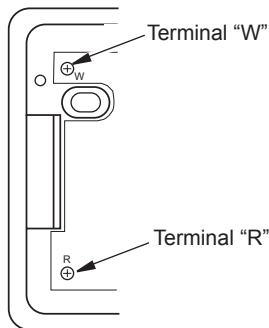

Figure 22 - Thermostat Base Terminal "W" and "R"
7. Connect one bare wire end to each terminal ("W" and "R") of the thermostat base (see Figure 22).